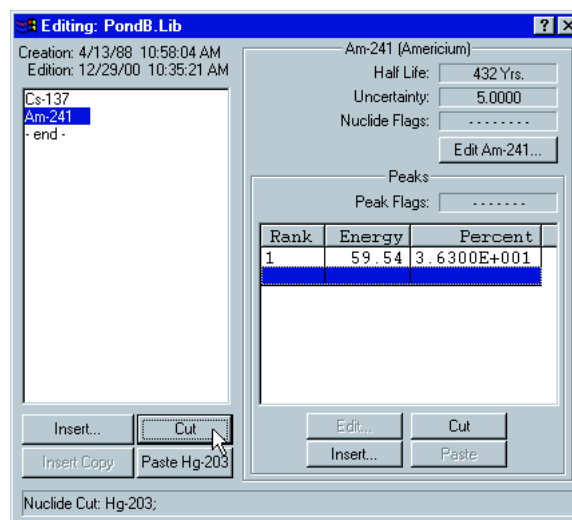

Fig. 30
2.5 To delete isotopes from the library highlight the isotope in the list (with a single click) and choose **Cut** (Fig. 30). Delete all of the isotopes in the library list except Cs-137 and Am-241.